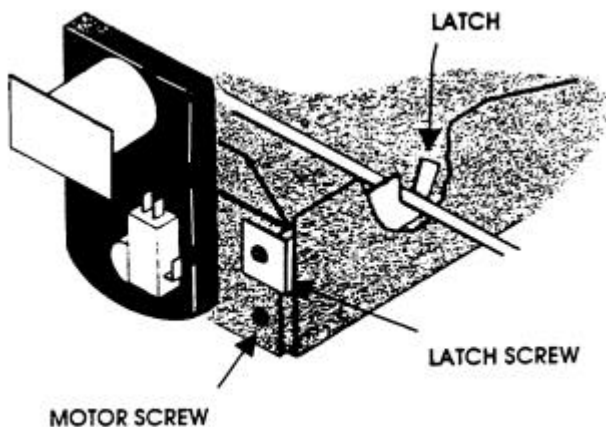

Figure 8
- Loosen the latch screw so the latch drops and out of the way. See **Figure 8**.
- To remove the vend motor, remove the two motor screws on the motor bracket. See **Figure 8**.